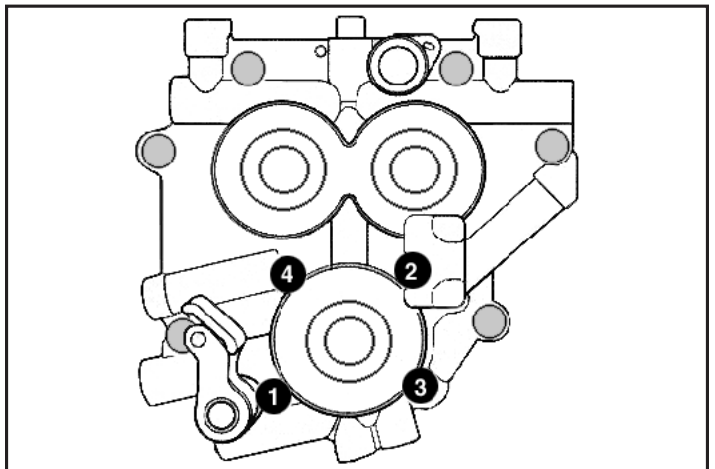

Figure 1
12. Following sequence shown in **Figure 1**, alternately loosen and remove oil pump bolts.
23. Install oil pump mounting bolts with a drop of blue thread locker according to procedure found in factory service manual: Gently bottom screws, then back them out 1/4 turn. Center oil pump by rotating engine by hand while snugging down screws. Alternately tighten bolts to 95 in-lbs. torque in sequence shown in **Figure 1 on Page 4**. Before proceeding with installation, verify that inner gears rotate freely and no binding is present.